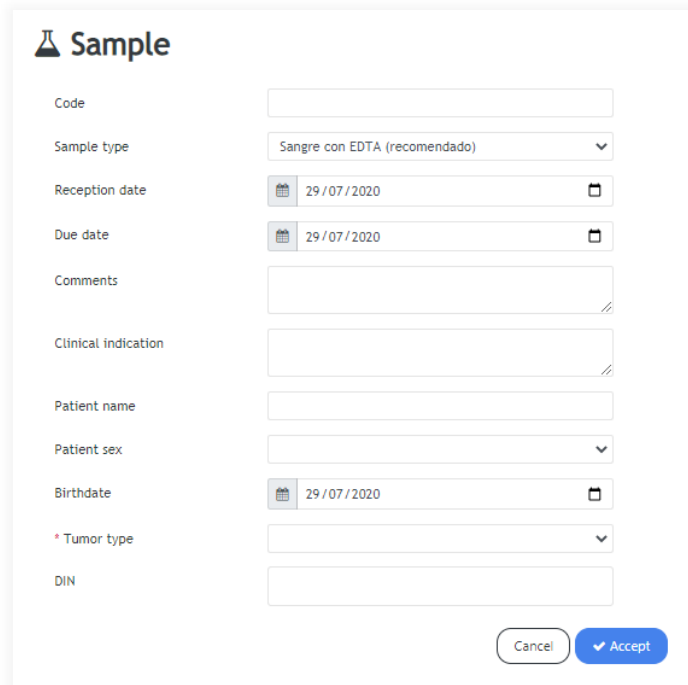

Figure 26. Pop-up screen with the required fields for each sample
- 03 Before processing the sequencing files, it is necessary to fill in some required fields for each sample: tumor type and percentage of tumor cells. To access the pop-up screen with these fields, click the pencil icon . In addition to the required fields, there are additional fields that the user may find useful (Figure 26). Once filled in, press "Accept".